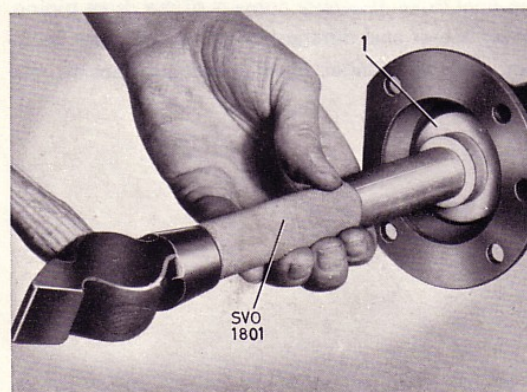

Fig. 4. Fitting oil seal.
4. Drive in the new oil seal. Make sure it is correctly located. Use tools SVO 1801 and SVO 2456, Fig. 4.